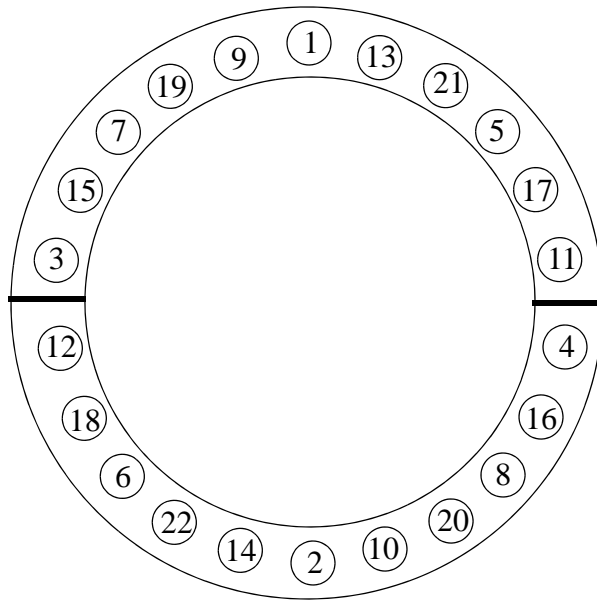

Figure 7-5. Tightening order of bearings in split frame. View is looking down onto rotating ring.
16. Turn the rotating ring so that you can access bearing #1 (shown in Figure 7-5) through the bearing access hole in the rotating ring. NOTE: depending on the size of the split frame, you may need to use the motor drive to turn the frame.
19. Repeat steps 16-18 for bearing #2, then #3 and #4 in order. (See Figure 7-5.)